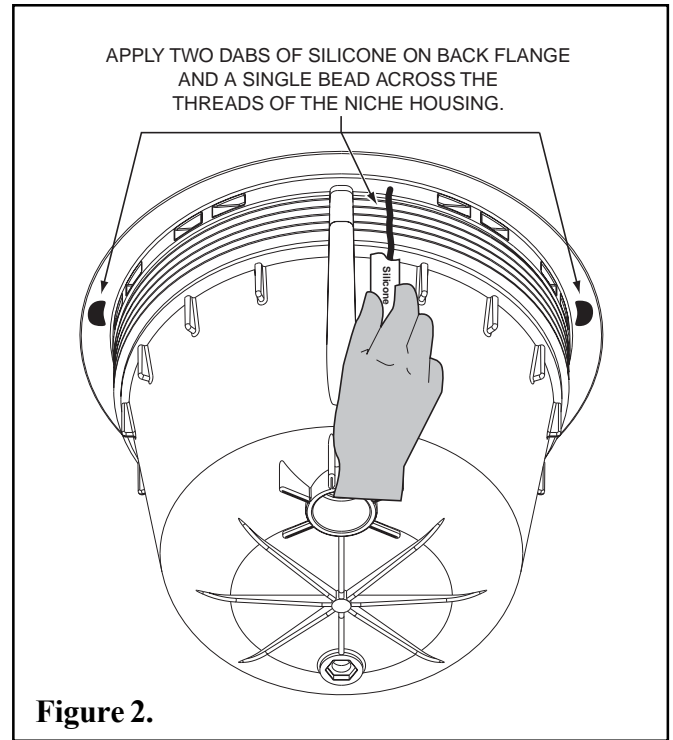

Figure 2.
- D. Apply two dabs of DC 732 Clear Silicone, (P/N 630023, included with niche), on back of flange and a single bead across the threads of the niche housing. See Figure 2.